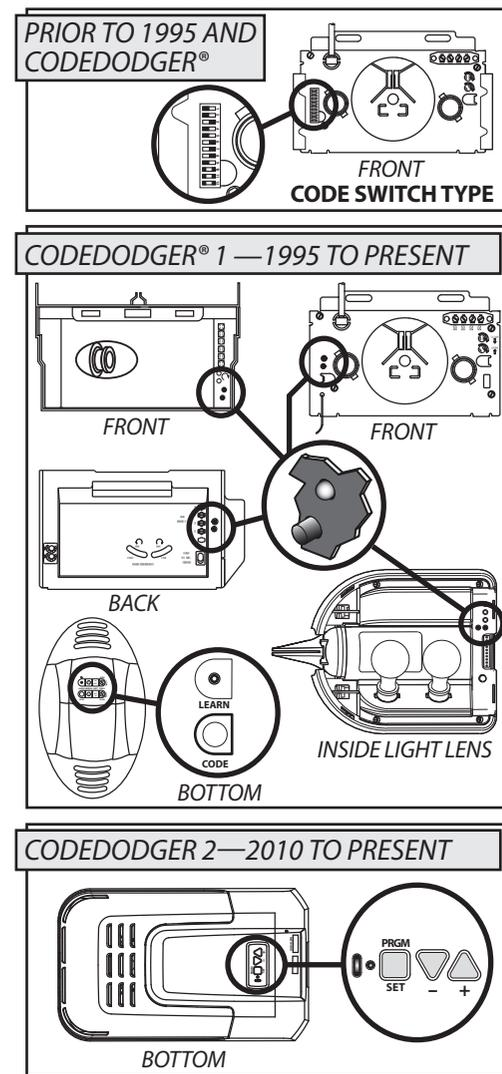

FIG. 2
The Universal Remote comes from the factory in the **CodeDodger® 1** Operating Mode. The **CodeDodger® 1** Mode is indicated by a **RED LED** on the remote whenever a button is pressed (FIG. 2).
3. Press and release a Remote Button, (FIG. 2)—the Learn Code LED will stay on (stops blinking)
The button or buttons on your remote that you wish to use to operate **CodeDodger® 2** openers, must be switched to the **CodeDodger® 2** Operating Mode. The **CodeDodger® 2** Mode is indicated by a **GREEN LED** on the remote whenever a button is pressed (FIG. 2).